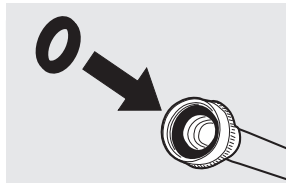

Fig. 2
2. Check to ensure the inlet hoses have the rubber washer firmly in place. (Fig. 2).